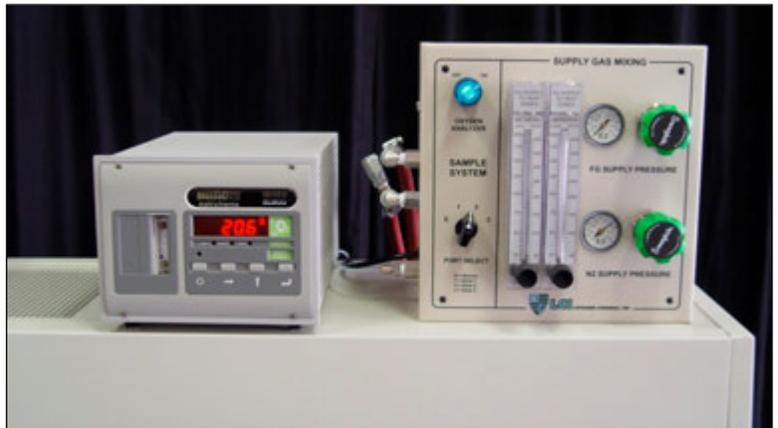

Figure 1. Position oxygen analyzer on furnace
1. Gently remove the oxygen analyzer from the box and place on the LA-306 furnace between the cabinet vent fan exhaust and the Sample System/Supply Gas Mixing system Enclosure (fig. 1).
5. Adjust lower valve OUT until Sample Flow flowmeter on front of analyzer reads 1-1.5 L/min (fig 1 & 2).